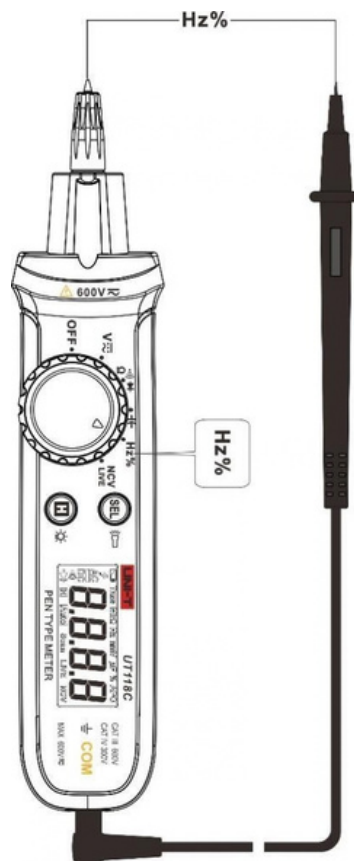

Figure 6
11.4 MeasureFrequency/DutyCycle (Figure 6)